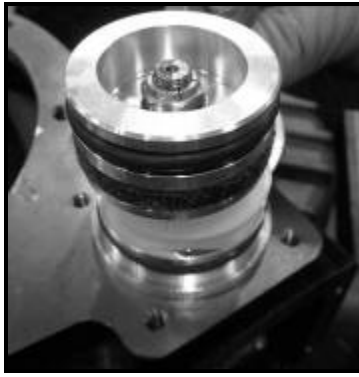

Figure 87
7. Position the piston on the shifter shaft. The end of the piston with the counterbore should be facing outward. Push the piston down to compress the spring and install the shifter shaft washer and locknut. Torque the nut to specification. See **Figure 87**.